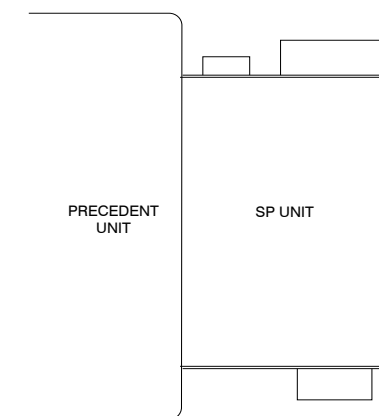
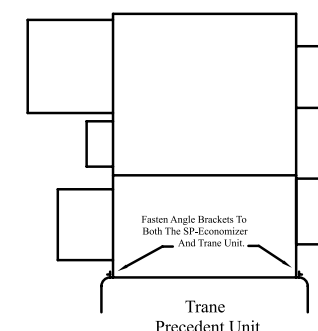

FIGURE 13. Plan view showing FläktGroup SEMCO SP and the Trane® Precedent® alignment.
FIGURE 15. Plan view showing angle brackets
- 6) Position the FläktGroup SEMCO SP unit next to the Trane® Precedent® unit (See **FIGURES 13** and **14**). When the FläktGroup SEMCO Economizer section is provided, fasten angle brackets to both FläktGroup SEMCO SP+Economizer and Trane® Precedent® units using #12 Tek screws as shown in **FIGURE 15**. Steps 7-9 are not required with the FläktGroup SEMCO Economizer option.